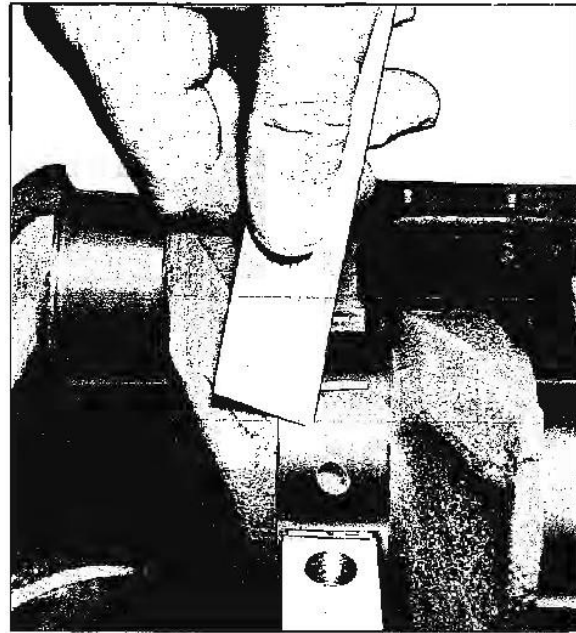

Fig. 6-54 Measure Plastigage
4. Remove bearing cap and using Plastigage scale on envelope measure width of compressed Plastigage before removing it from the bearing or journal (Fig. 6-54). If the bearing clearance is between .0005" and .0025", the clearance is satisfactory. If the clearance is more than .0025", replace the bearing with the next undersize bearing and recheck clearance. Bearings are available in standard size .001" and .002" undersize.